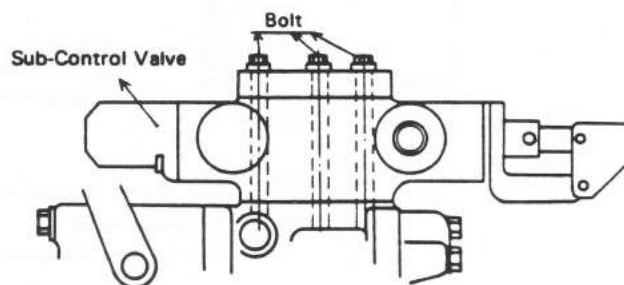

Fig. 27 Sub-control Valve Installation
- d. Install new "O" rings (two) after removing the cover, and place the sub-control valve on the rings. Then, place the cover (removed before) on the sub-control valve, and install three bolts (M8 x 80). Tighten the bolts with a torque of 15 lb-ft (2.0 kg-m). Refer to Fig. 27.
- a. Fully lower the implement, and stop the engine. Clean the sub-control valve and height control valve. Remove pipes connecting the implement to the sub-control valve. Remove the three bolts (M8 x 80) as mentioned in 6-1 above, and remove the sub-control valve. (Refer to Fig. 27).
- c. Remove the four bolts (10), and remove the bracket (20) and cap (6).
- d. Take out the "O" ring (4) and wiper (5) (on the lever side) from the body. On the other hand, the "O" ring (4), wiper (5) (on the cap side) and seal plate should be taken out, when the spool (2) is pulled out toward the cap.
- e. Remove the cap screw (8), and remove the spring seat (7), spring (9), "O" ring (4) and wiper (5).
- f. Remove the plug (14), and take out the poppet (11) and spring (12).